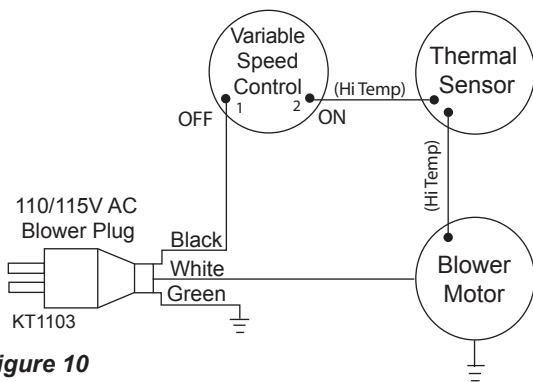

Figure 10
1. Connect the wiring according to the wiring diagram. *Figure 10*